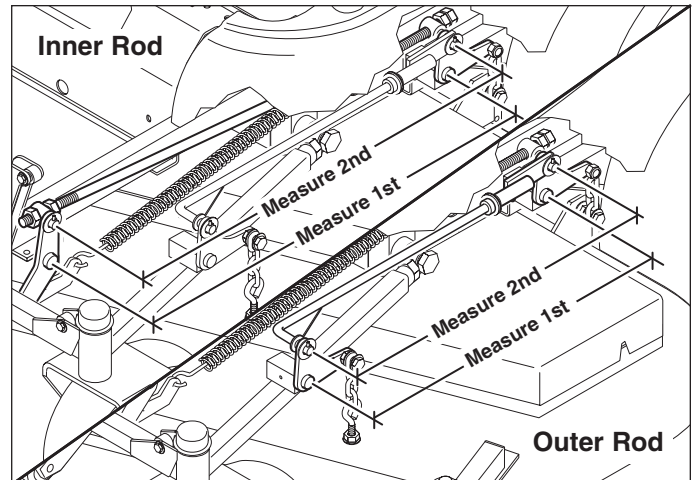

Figure 35. Measure the Inner & Outer Lift Rods
2. To check the inner lift rod timing, measure and record the distance between the inner lift pivots and the inner rod pivots. Repeat for other side of unit. See Figure 35.
3. To check the outer lift rod timing, measure and record the distance between the outer lift pivots and the outer rod pivots. Repeat for other side of unit. See Figure 35.